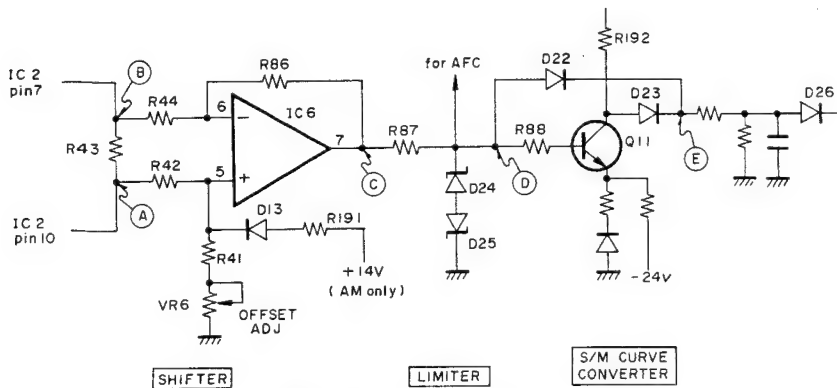
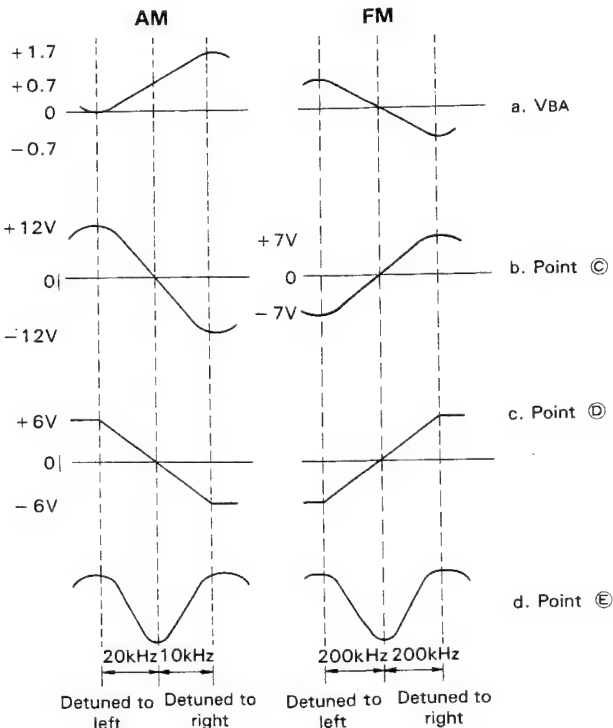

Fig. 7 S-Curve Detector
Fig. 8 Voltages at Each Point in Figure 7
This circuit detects the S curve signal and passes through the $\pm 6 \text{ V}$ limiter where the AFC signal is obtained, then the S curve signal is converted into the M curve signal to detect the correct tuning point. Potential changes at points (A)–(E) shown in figure 7 are shown in figure 8.
The S/M curve converter is provided to detect the correct tuning point (0 V cross point of S curve) exactly. Q11, D22 and D23 change their states as shown in table 4 according to the polarity of the signal at point (D), and the output waveform is as shown in figure 8-d. This signal is applied to the base of Q12 through D26.